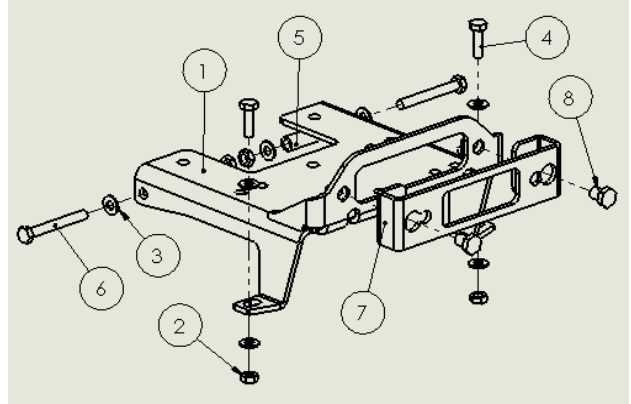

Figure 1
- 2) Insert the winch mount below the radiator so that the bottom wings sit on top of the 'U' shaped vehicle frame. Secure the two wings to the frame with the 5/16" x 1.00" bolts. Do not tighten yet. See FIGURE 1 & 2 for details.